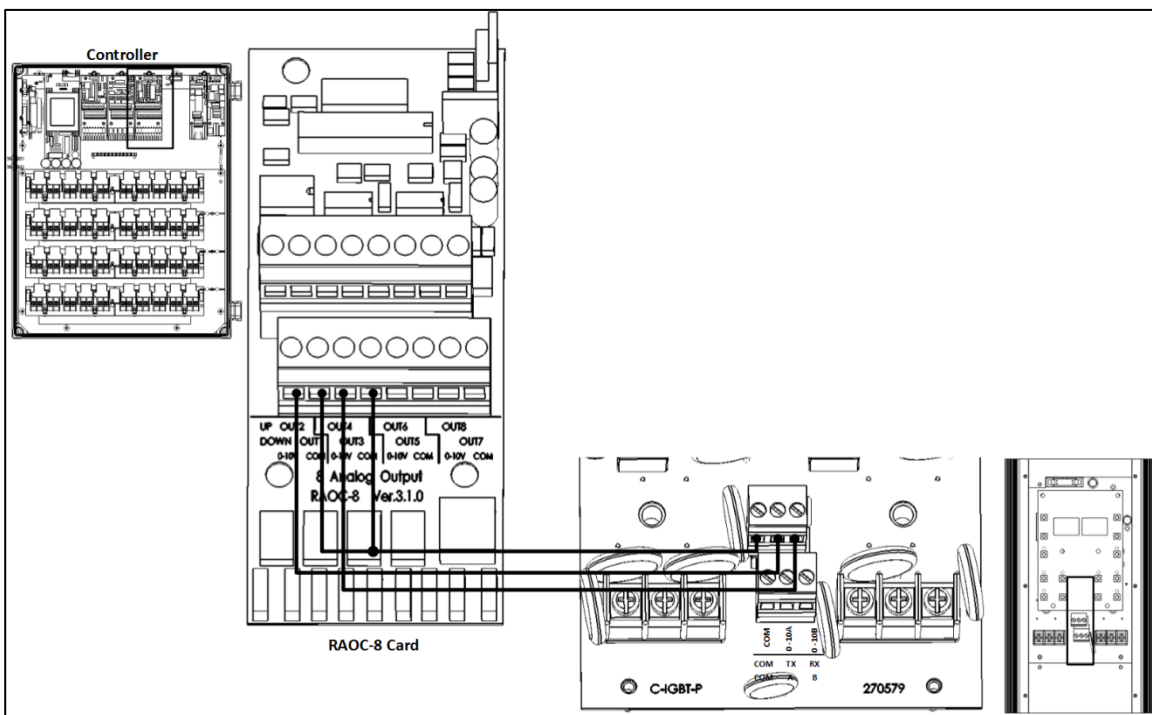

Figure 6: RAOC-8 (Analog Output) to RLED 2.0 Wiring Diagram
Figure 6 key
1. Connect the 0 – 10 VDC (+) and COM (-) wires from the external device to terminal ports "0 10V A", "0-10V B" and COM (Figure 6).